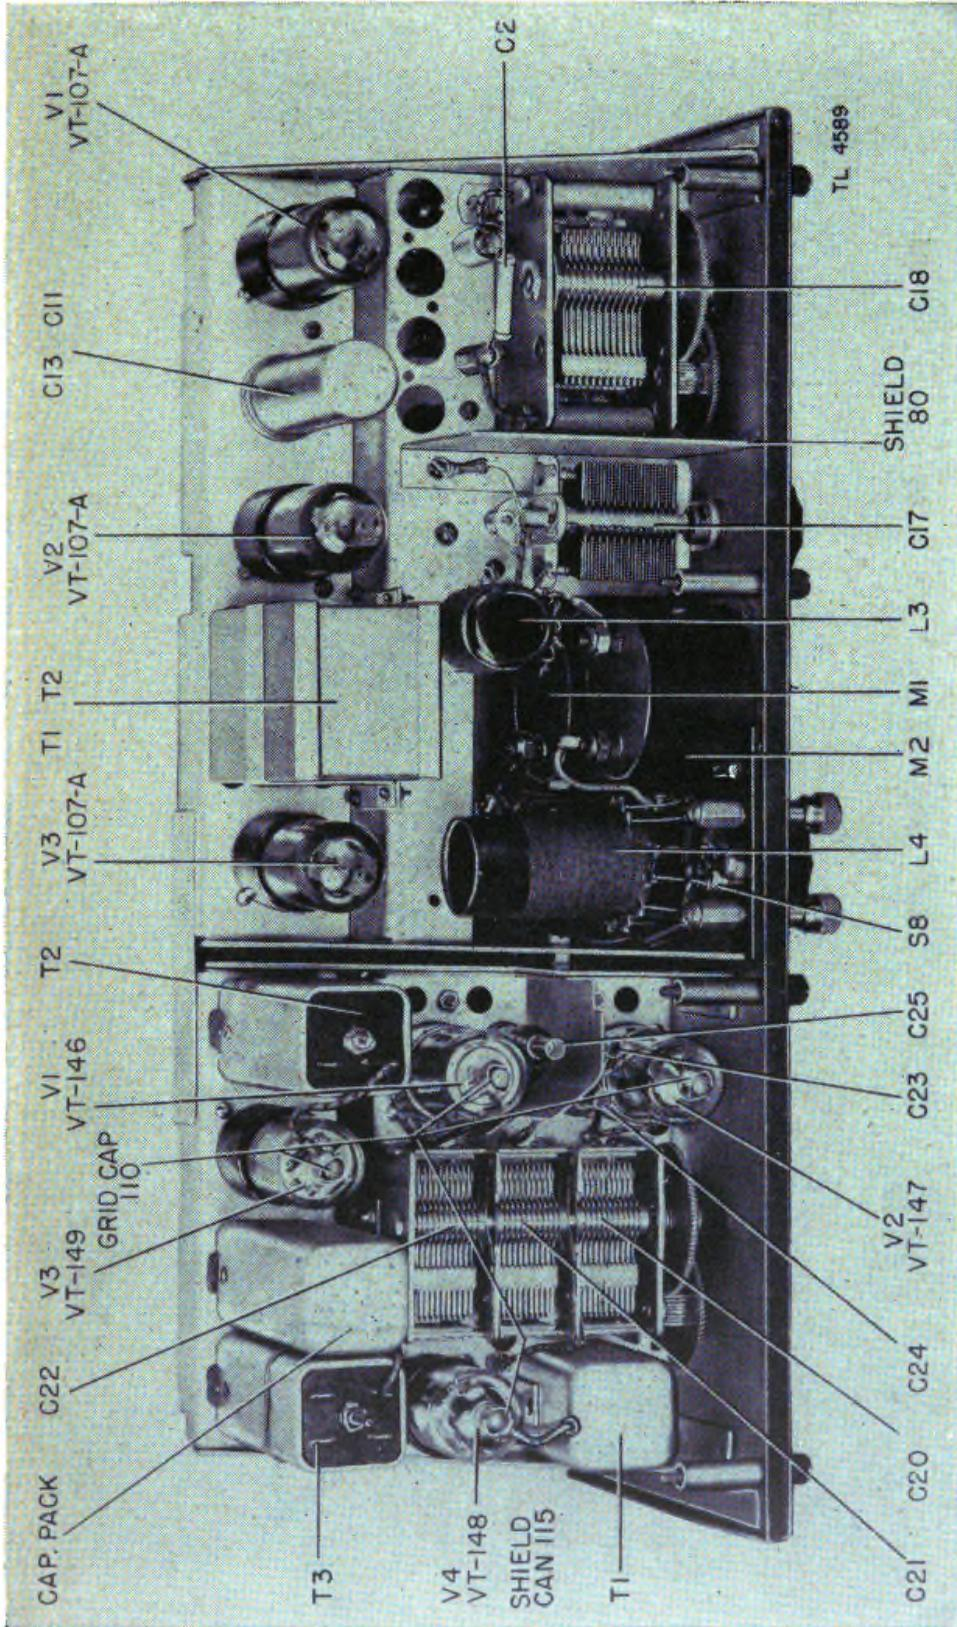

FIGURE 8.—Radio receiver and transmitter BC-474-A, chassis—top view.
10. **Over-all equipment.**—*a.* The top and bottom views of radio receiver and transmitter BC-474-A, removed from the case, are shown in figures 8 and 9.